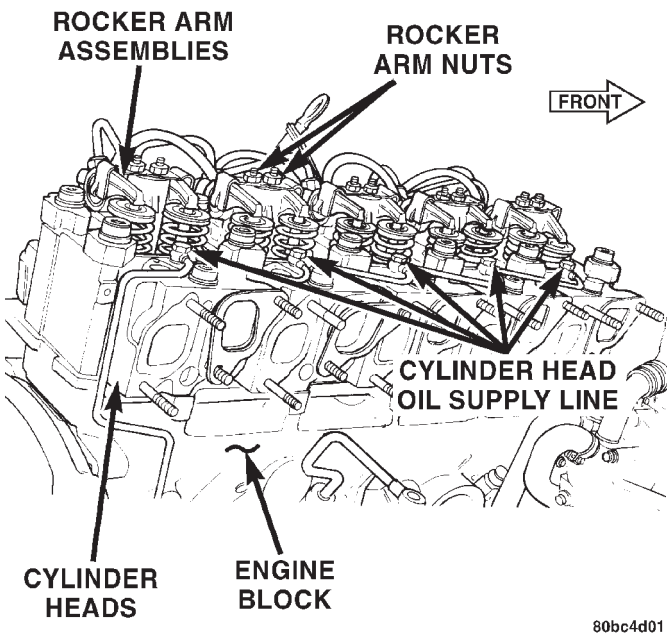

Fig. 69 Oil Feed Lines
(12) Central bolts A-L: Completely back off bolts one-by-one and then retighten to 30 N·m plus 130° (±5°). Then proceed in the same way, bolt by bolt, following alphabetical order, as indicated.
(13) Side bolts M1-M2: **Without slackening**, torque bolts M1 then bolts M2 to 90 N·m (66 ft. lbs.).
(14) Torque intake nuts to 28 N·m (20 ft. lbs.) and exhaust manifolds nuts to 32 N·m (24 ft. lbs.) after completing the cylinder head torquing procedure.
(15) Install the oil feed lines for the rocker arm assemblies. Torque oil feed lines to 13 N·m (115 in. lbs.) (Fig. 69).